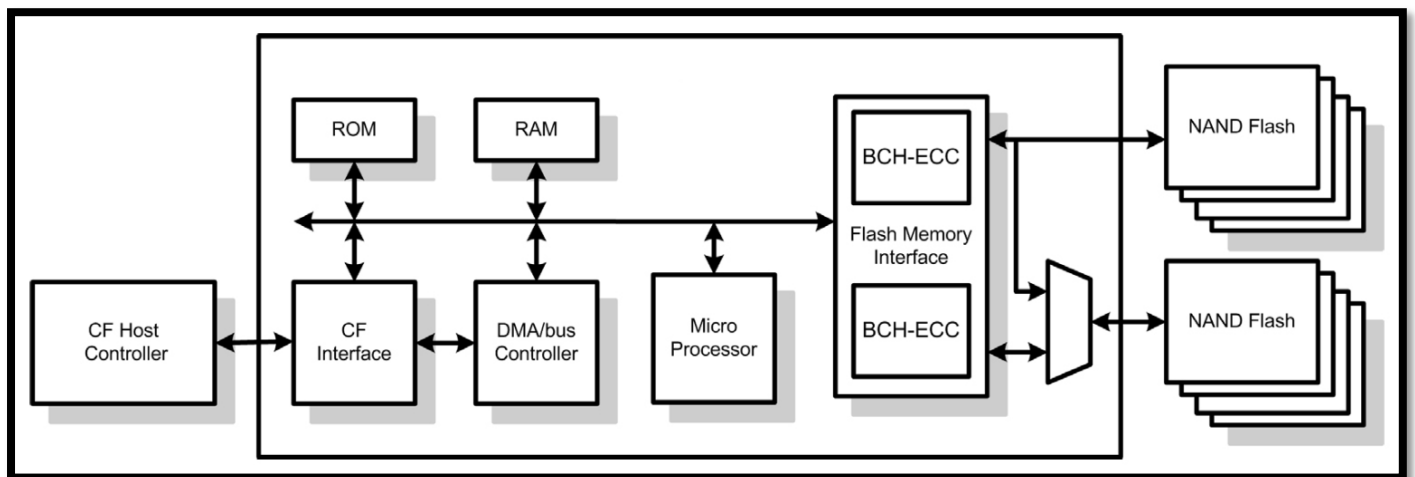

Figure 1: APRO MLC CompactFlash® Card HERCULES-K Series block diagram
Figure 1 shows a block diagram of the APRO MLC CompactFlash® (CF) Card HERCULES-K Series.